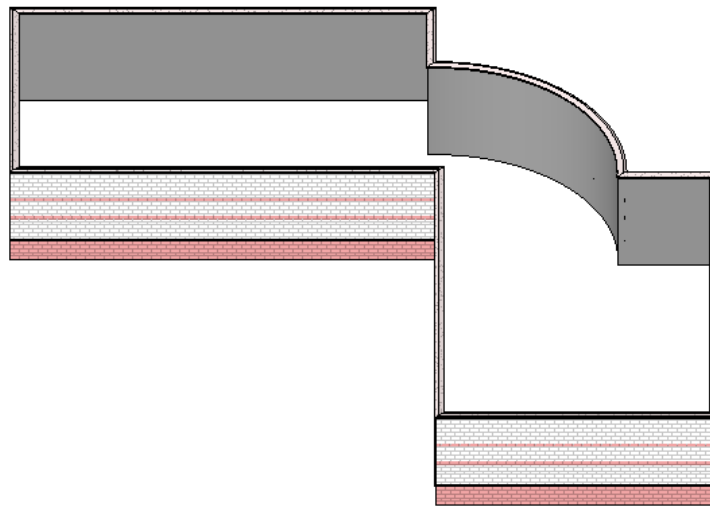

Figure 2-45 3D view of the completed exterior wall profile
12. Choose **View > Shading with Edges** from the menu bar and choose the **3D** button from the **View** toolbar, to view the project in 3D as shown in Figure 2-45.